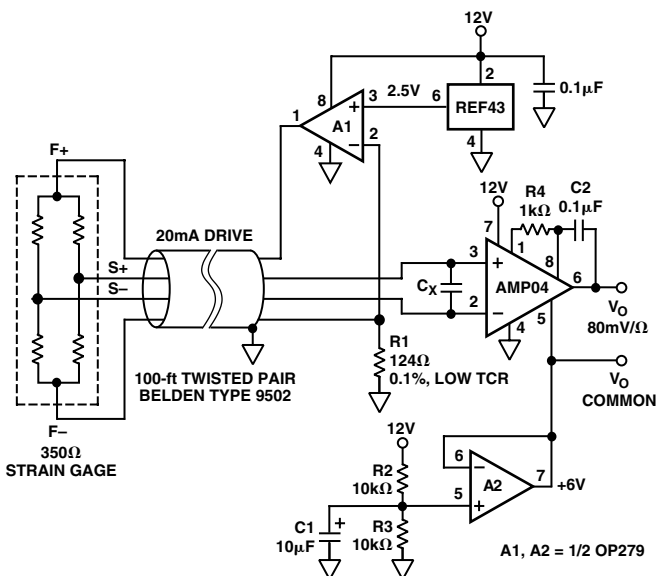

Figure 11. A Single-Supply, Remote Strain Gage Signal Conditioner
The circuit in Figure 11 illustrates a way by which the OP179/OP279 can be used in a 12 V single supply, 350  $\Omega$  strain gage signal conditioning circuit. In this circuit, the OP179/OP279 serves two functions: (1) By servoing the output of the REF43's 2.5 V output across R1, it provides a 20 mA drive to the 350  $\Omega$  strain gage. In this way, small changes in the strain gage produce large differential output voltages across the AMP04's inputs. (2) To maximize the circuit's dynamic range, the other half of the OP179/OP279 is configured as a supply-splitter connected to the AMP04's REF terminal. Thus, tension or compression in the application can be measured by the circuit.